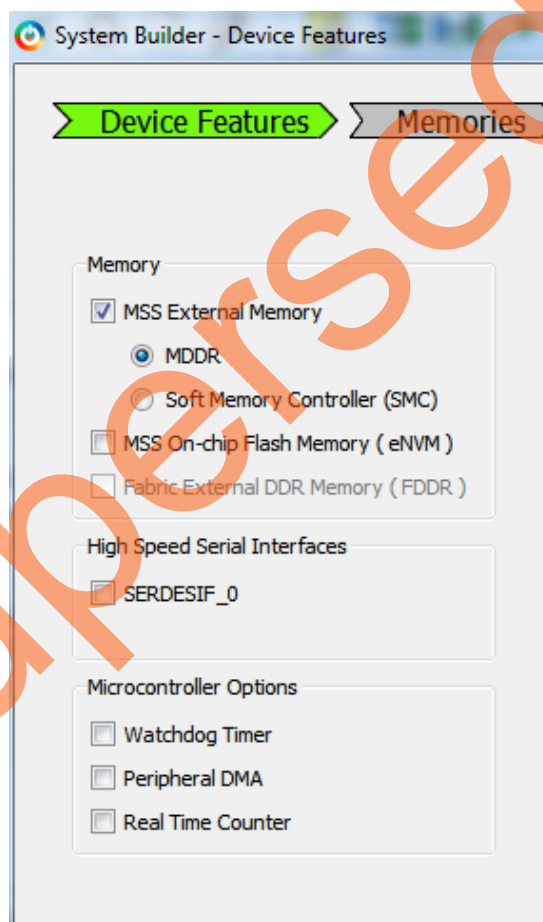

Figure 6. SmartFusion2 SoC FPGA System Builder Configurator
8. The System Builder dialog box is displayed with the **Device Features** page, as shown in Figure 6.